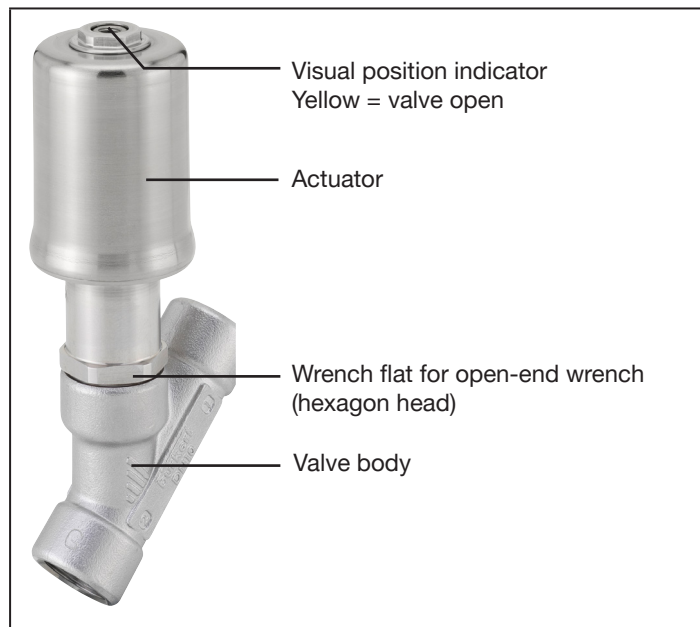

Figure 4: Disassemble actuator
- Remove the actuator from the valve body in the open valve position using a open-end wrench (see “Figure 4”).